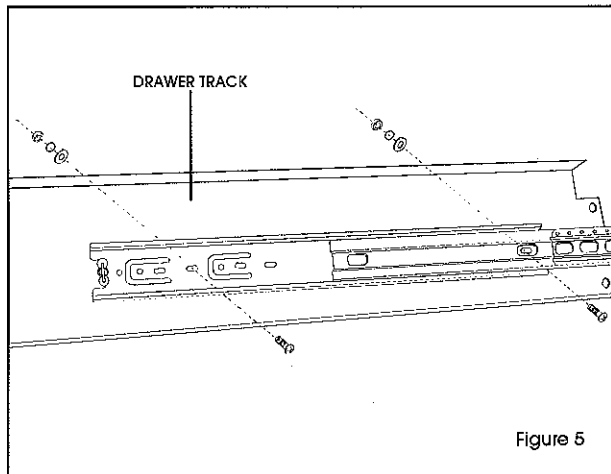

Figure 5
2. Attach drawer slides to drawer tracks using 2 small bolts, washers, lock washers and nuts. Extend drawer slide completely to attach to track. Insert center bolt first to align front bolt hole. (See Figure 5)